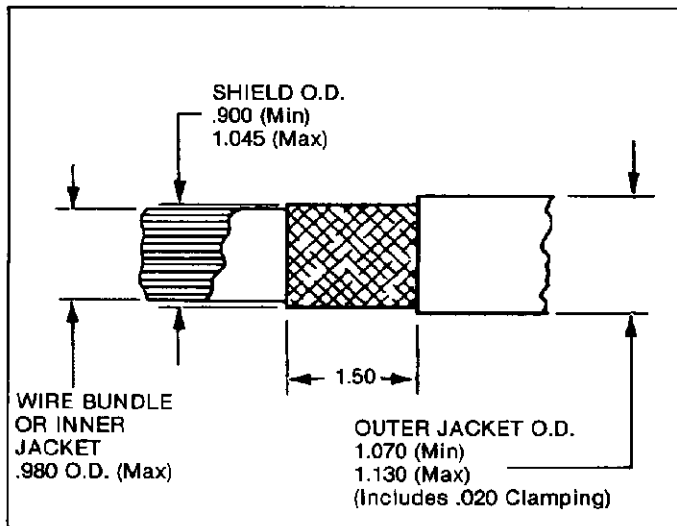

Fig. 3
2. Strip cable to dimensions shown in Figure 3.